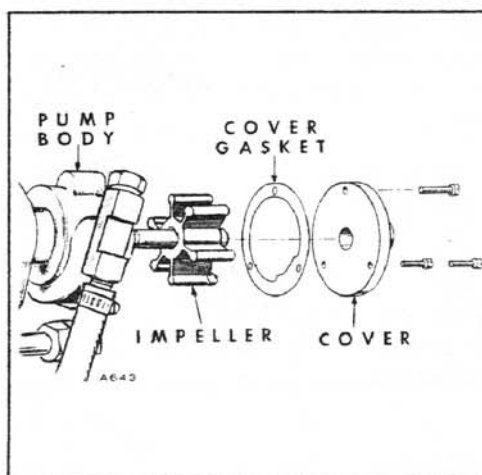

Fig. 17 Water Pump
- G. - **WATER PUMP IMPELLER.** Remove water pump cover, figure 17, and inspect neoprene impeller. If worn or damaged, install new impeller. Pump should discharge a nominal 4 U.S. gallons per minute when thermostat is open. Install pump cover air tight to avoid early failure of impeller.